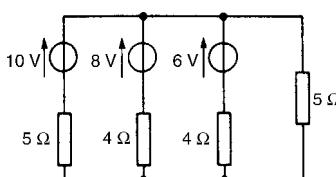

Figure 13.79
- 5 For the network shown in Fig. 13.79, convert each branch containing a voltage source to its Norton equivalent and hence determine the current flowing in the 5Ω resistance. $[1.22 \text{ A}]$